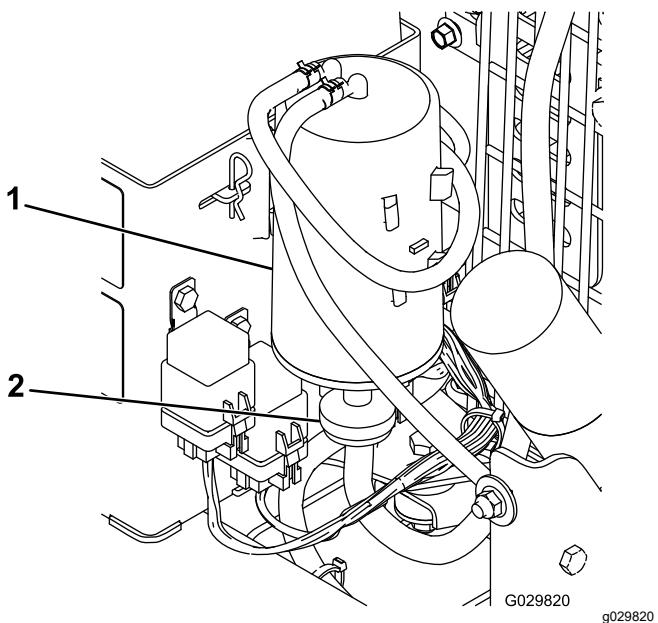

Figure 18
- Remove and discard the carbon canister air filter (Figure 18).